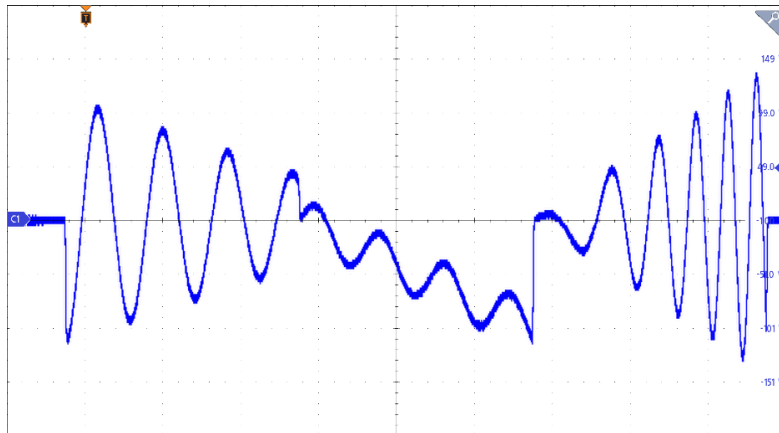

Figure 5-11 List Mode Setting Page (Example Output Waveform for Phase 1 Sequence Configuration)
7. After setting the sequences, tap the Home key , then press **TRIG. ON** to trigger the output. The output waveform is shown in Figure 5-11.